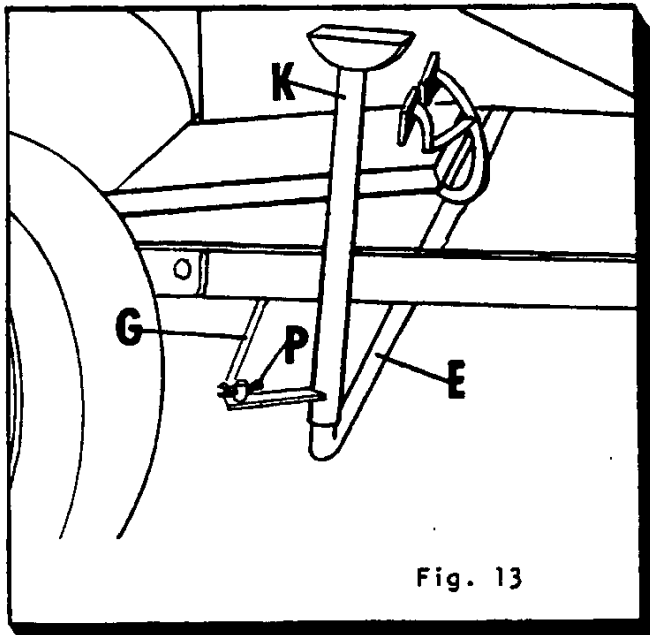

Fig. 13
1. Slide pivot control handle (K) over pivot control arm (E). (See Fig. 13)
1. Assemble pin release rod (G) into hole on pivot control handle (K). (See Fig. 13)
2. Secure with hair cotter pin (P).